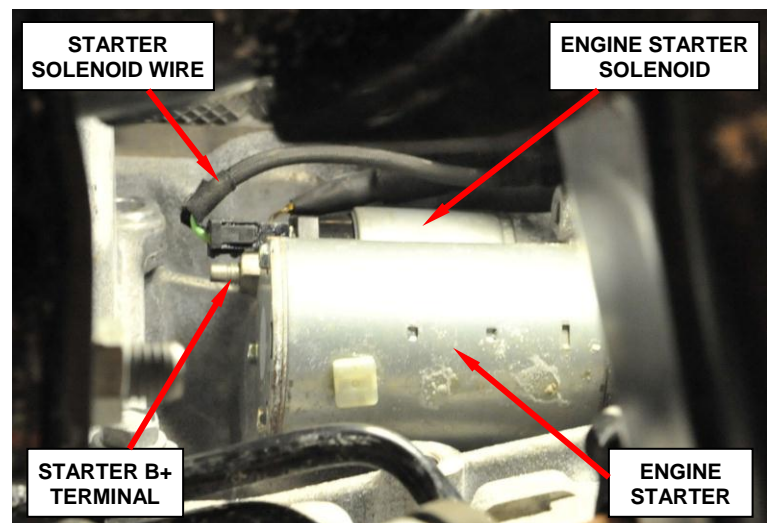

Figure 4 – Starter B+ and Solenoid Connectors
17. Remove and save the starter B+ terminal nut and disconnect the starter solenoid wire (Figure 4).